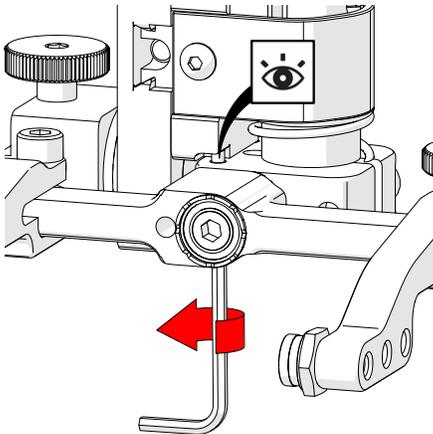

Fig. 145 - Raise opposite 90° stop post
8. Raise the stop post on the opposite side until the side of the post clearly contacts the 90° stop point on the probe holder's base (Fig. 145).